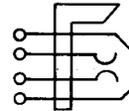

Fig. 5—407A Plug
2.05 **407A:** The 407A plug (Fig. 5) is provided with the sleeve and spring for holding the plug in position in the jack. This plug is designed to accommodate a 5/16-inch diameter cable and is used with the 444-type jacks.